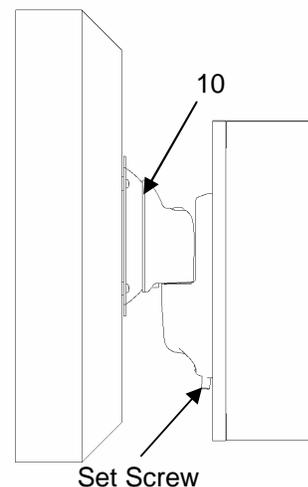

Figure 13. Tighten Set Screw
2. Using 5/32" hex wrench (140), secure mount to wall bracket by tightening set screw (see Figure 13). Ensure set screw engages *back* side of bracket to properly secure mount.